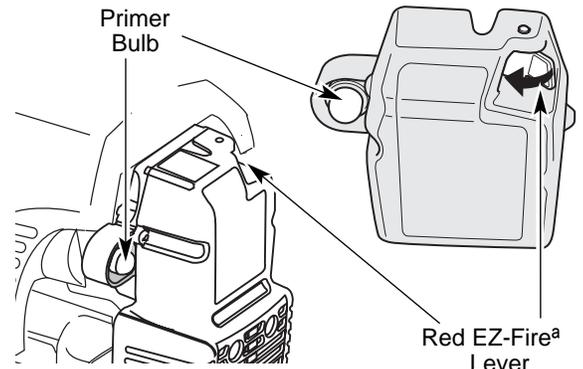

Fig. 10
1. Move the throttle control to the idle position (🐷). Allow the engine to cool down by idling (Fig. 10).
2. Put the On/Off Stop Control in the OFF (O) position (Fig. 10).
2. The On/Off Stop Control is in the ON (I) position at all times (Fig. 10).
3. Fully press and release the primer bulb 10 times, slowly. Some amount of fuel should be visible in the primer bulb and fuel lines (Fig. 10). If you can't see fuel in the bulb, press and release the bulb as many times as it takes before you can see fuel in it.
5. Push the red EZ-Firea Lever towards the primer bulb until it clicks and locks into place (Fig. 10).